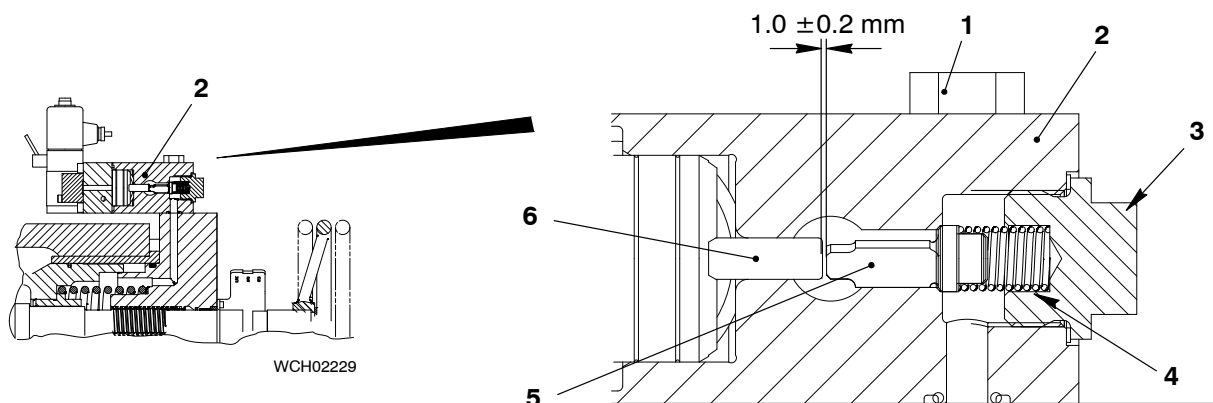

Fig. 3
- 9) Apply Loctite 0243 to the threads of the spindle nut (11).
- 10) Put the spindle (8) and spindle nut (11) into valve (12).
- 11) Attach the valve (12) together with spindle (8) and piston joint ring (10) to the housing (15).
- 12) Apply Molykote paste to the inner cylinder of the cover (6).
- 13) Put the spring (9) on to the spindle (8) in the cover (6).
- 14) Attach the cover (6), spring (9) and spindle (8) to the housing (5) with the eight screws (23).
- 15) Torque the eight M24x100 screws (23) to value given in 0352 1, paragraph 1.
- 16) Install the handwheel (7).
- 17) Attach the control valve (3) to the cover (6) with the two bolts (2).
- 18) Tighten the two bolts (2) to the value given in 0352 1, paragraph 1.
- 19) Put the piston (6), valve (5), spring (4) and screw plug (3) in position in the control valve (2), refer to Fig. 3.
- Note: When you do step 20), look through the hole in the control valve (2).**
- 20) Make sure that the clearance between the valve (5) and the piston (6) is 1.0 ± 0.2 mm.